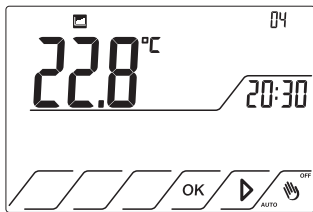

Fig.52
14.6 Press ▶ to move on page 4. Fig.52